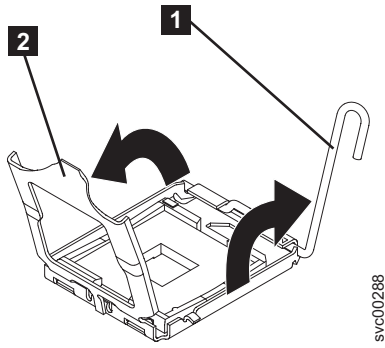

Figure 255. The microprocessor release lever and bracket frame fully opened
4. Open the microprocessor release lever (**1** in Figure 255 on page 271) to the fully open position.
5. Open the microprocessor bracket frame (**2** in Figure 255).